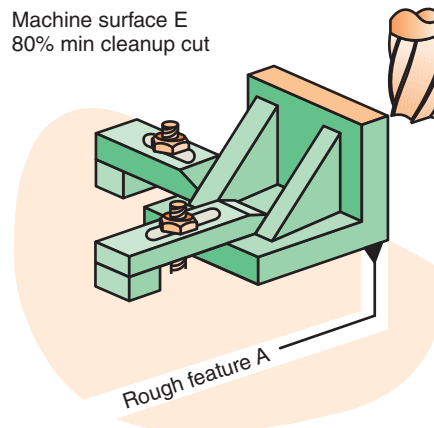

Figure 16-11 Machining reference surface E on the angle plates.
I first machined a temporary surface (E), which will lead to a reliable milling of face A, then B. To mill E, each plate was first nested on uncut face A, against the mill table (Fig. 16-11). Then an 80 percent cleanup cut was made creating a temporary datum that represented the “average surface A.” Surface E will be milled to the pregrind 100.8 mm later, after Datum A is complete.